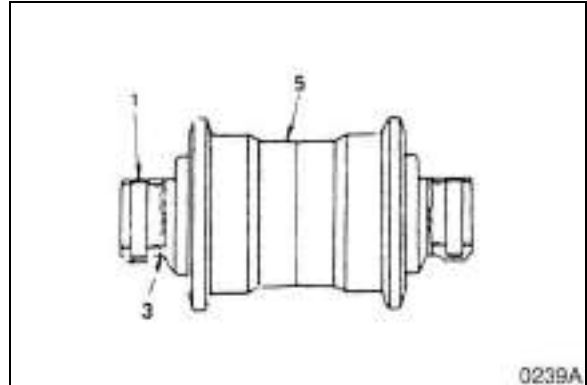

Figure 37
6. Install the collar (3, Figure 37), O-ring (2), and pin (1) on the remaining side.